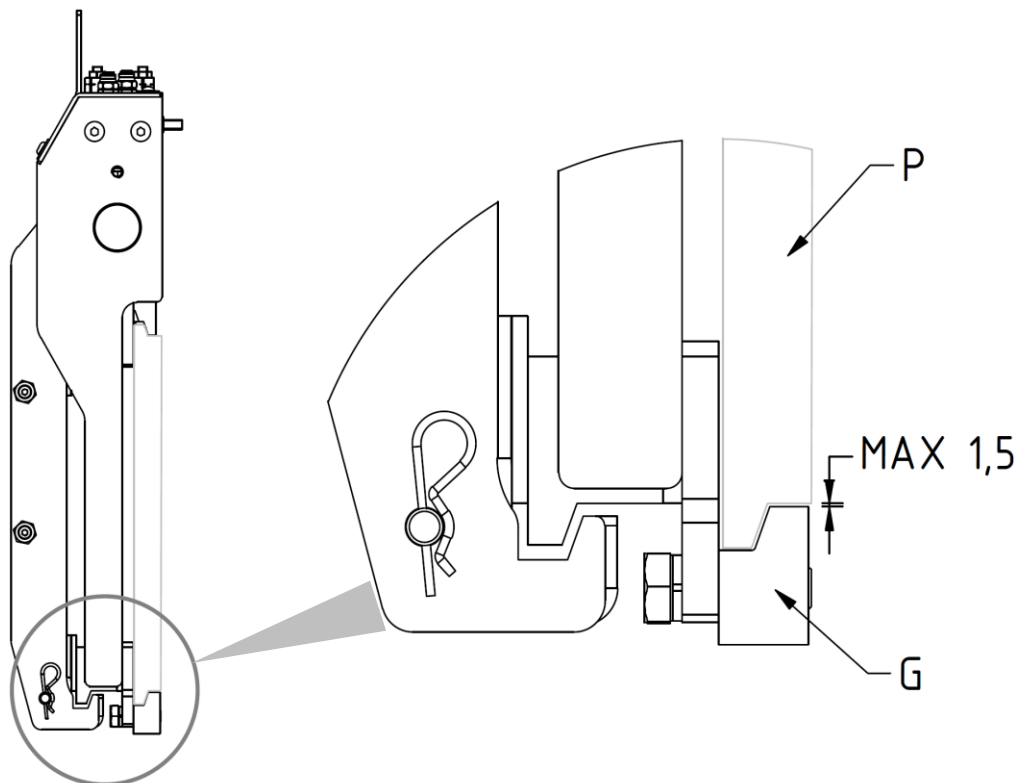

Figure 8
7. Screw on the 2 lower couplings **G** in such a way that their bodies also remains coupled to the lower part of the fork carriage **P** (with max. clearance of 1.5 mm, see *Figure 8*), tightening with the torque indicated in *Table 4*.
3. Check clearance between the lower part of the fork carriage and the lower equipment couplings, ensuring that it is as shown in *Figure 5* (page 12) and in *Figure 8* (page 15) and, if necessary, adjust the bolts holding them in place.